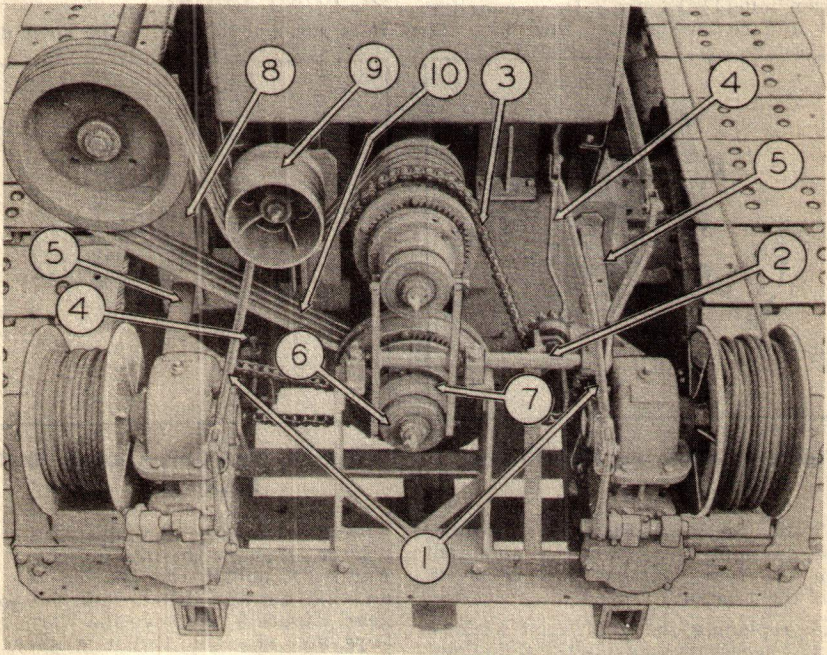
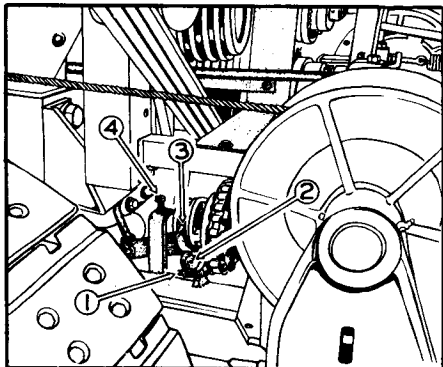

Figure 2 Power Take-Off and Dual Hoist Assembly
Figure 3 Hoist Jaw Clutch Control
Remove the rear shield, lower the boom, and remove the cables from both hoist drums. Remove the hoist brake control links (1), Figure 2, friction clutch shifter (2), chain and belt shield, drive chain (3), jaw clutch control links (4), and loosen bolt (1), Figure 3. Drive out shaft (2) and remove shifter fork (3). Re-
move the braces (5), Figure 2. The dual hoist assembly may now be unbolted from the rear supports and removed from the tractor.
When replacing the dual hoist assembly it is necessary to make the following adjustment on the jaw clutch shifter forks. With the jaw clutch engaged, the adjustment bolt (4), Figure 3, should be
Remove the rear shield, the left hoist brake control link (1), Figure 2, the friction clutch shifter (2), the chain and belt shield and the drive chain (3). Adjust the belt idler (9) upward to release the tension on the belts. Old belts (10) may now be removed and new belts installed. Always replace belts in complete sets.
Remove the rear shield, the clutch shifter (2), Figure 2, and the clutch